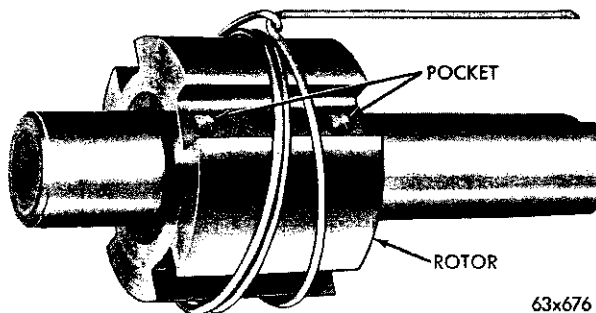

Fig. 62—Slipper Retainer Wire Retainer Tool Installed on Rotor
(10) Using a piece of soft steel wire 25 inches long, make three turns around the center of the rotor and fasten the wire as shown in Figure 62. Bend the ends of the wire towards the pulley end of shaft. Do not make the wire coils too tight or the wire will be difficult to remove.